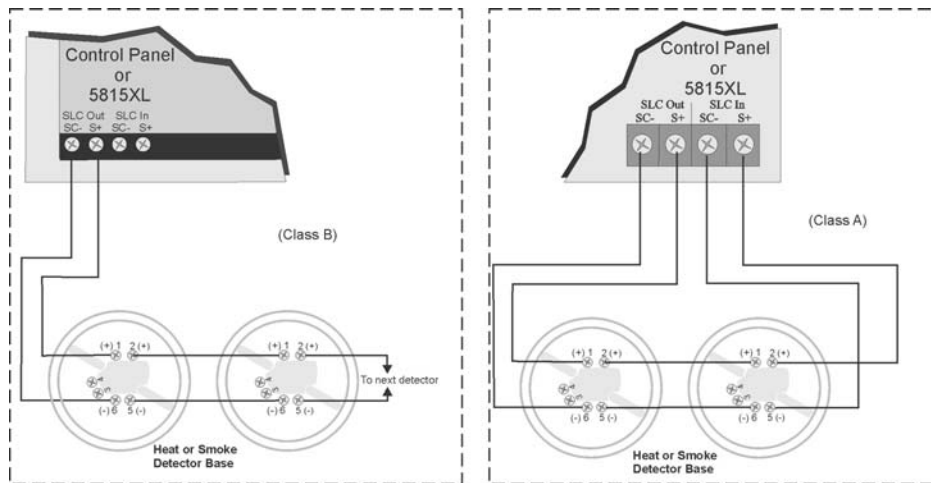

Figure 7-5 Heat or Smoke Detector Connection to the FACP
1. Wire device bases as shown in Figure 7-5.